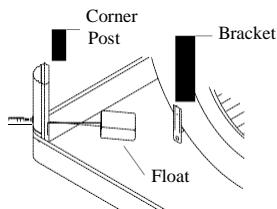
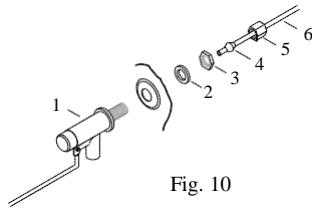

Fig. 9
Fig. 10
- Install float and attach water line to float.** The float may be installed in either the corner post or bracket (see Fig. 9). If you have model 7300DD then the float should be mounted to the bracket. Refer to figure 10 for installation instructions. Insert the float (1) thru the hole in the corner post or bracket. Install the washer (2) and nut (3). Tighten to keep the float from turning. Place the nut (5) and ferrule (4) on the water supply line. Connect to float fitting and tighten until watertight.